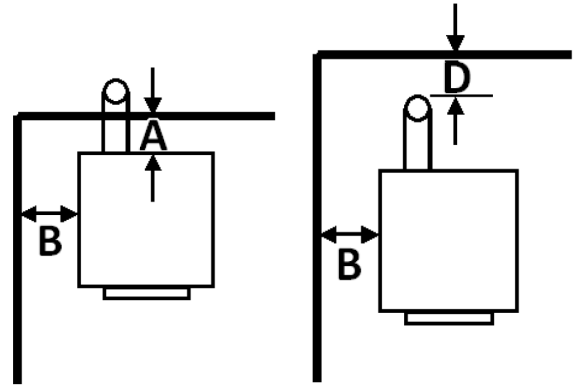

Figure 1
The ECO-45 has been tested and listed for installation in residential, mobile home. (refer figure 1 to 3)
1. Position stove, adhering to clearances shown in Figures 1 & 2.